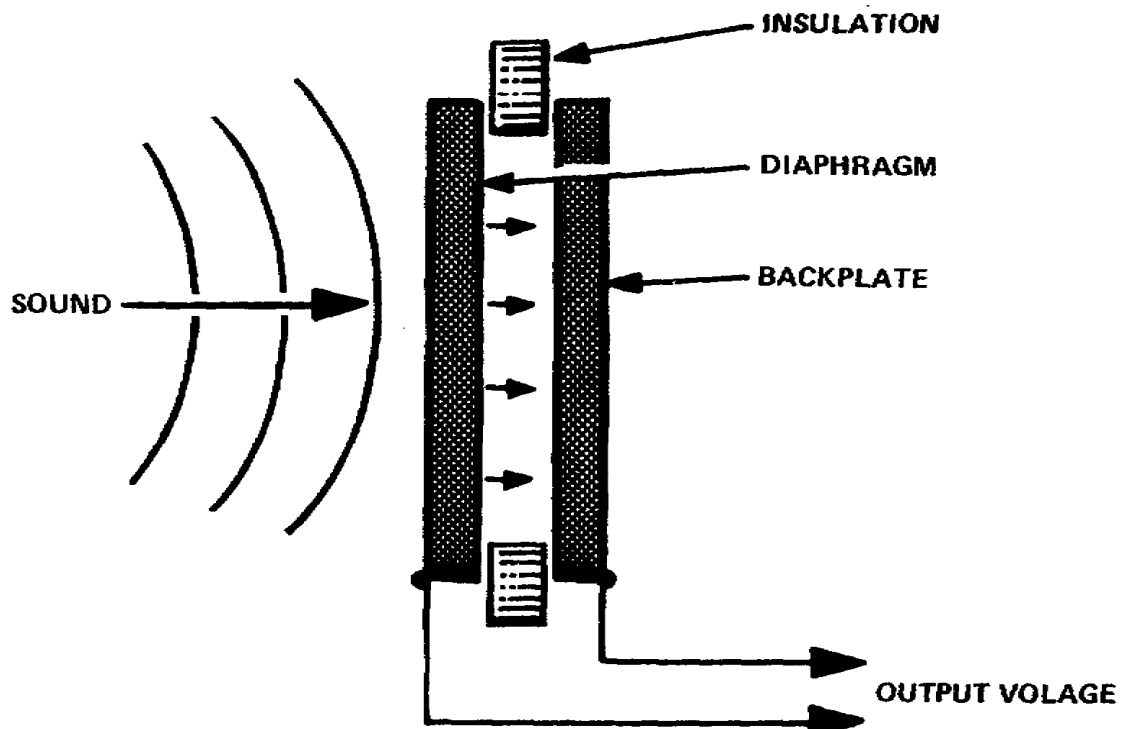

Figure 2-29. Capacitor (condensor) microphone
(3) Principles of operation. A metallic ribbon is suspended between the poles of a permanent magnet which vibrates freely in a magnetic field. This ribbon, constructed of a thin aluminum strip, serves as the diaphragm. Movement of this ribbon by a sound wave causes the magnetic lines of force to be cut crosswise, creating a corresponding voltage between the two ends of the ribbon.
g. Capacitor (Condensor) Microphone. These microphones get extensive use in recording studios because of the broad frequency range, low distortion, little internal noise, and excellent sensitivity (fig 2-29). But, due to their principle of operation, they require a preamplifier as an integral part of the housing, plus a power supply for the preamplifier. They also require an output transformer that converts the extremely high impedance of the microphone capacitor head to a low impedance for unlimited cable length. Their quality and principle of operation combine to make them the most expensive professional microphones.